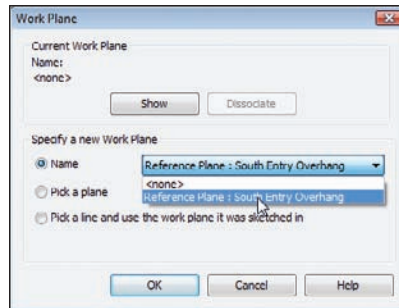

FIGURE 7.50 Selecting the South Entry Overhang reference plane
2. When you start the command, Revit will ask you to specify a reference plane. Select Reference Plane: South Entry Overhang from the Name drop-down list, as shown in Figure 7.50.